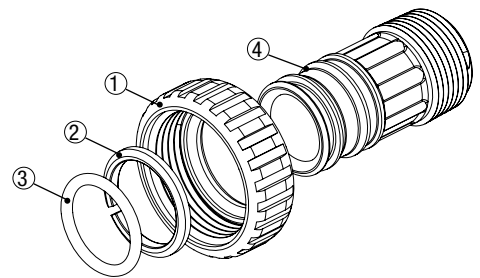

Figure 2. Fitting Installation Instructions
b. Ensure the bypass valve is placed into the bypass position as shown in Figure 2 until instructed to place into the service position.
You will need to assemble the 1" NPT male connection fitting before you attach it to the bypass valve. Please refer to Figure 2 below to correctly assemble the connection fitting. Attach the plumbing to the 1" NPT male connection fittings, hand tighten the fitting nuts only. Be careful not to apply heat to any plastic part when making the connection of the plumbing to the connection fittings. Utilize only thread sealant tape to seal any NPT fittings that connect to the connection fittings. Both NPT connections utilize an o-ring to prevent a leak.